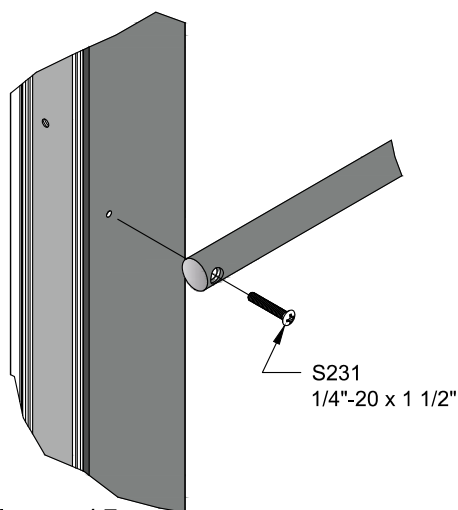

Figure 15
4. Loosely attach push bar to hinge stile with S231 screw. See Figure 15